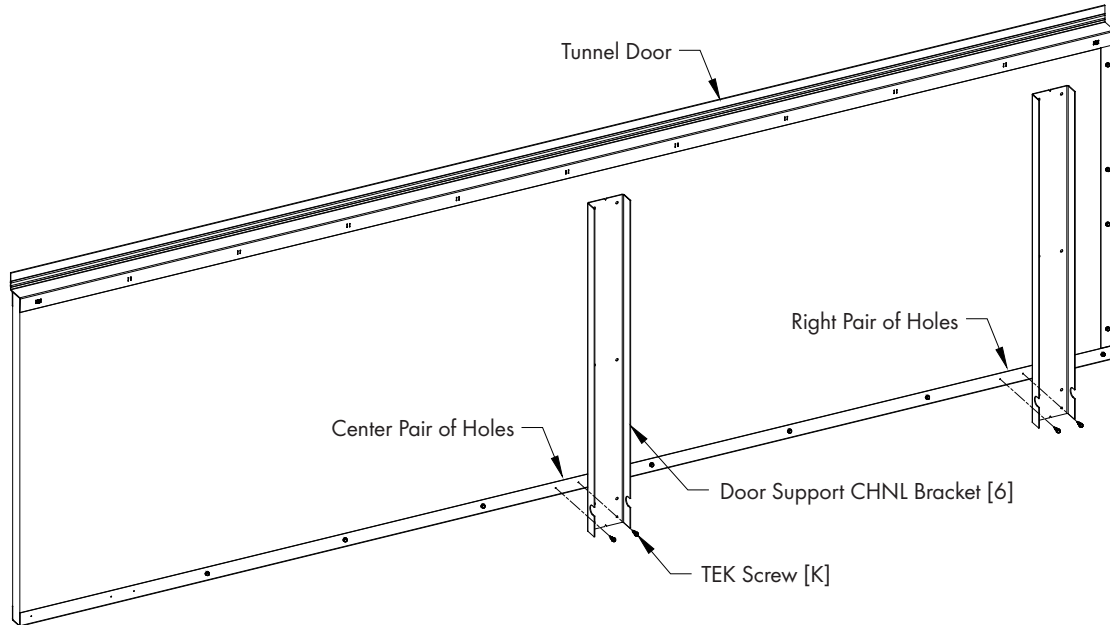

Figure 15
For the Right Door, attach a Door Support CHNL Bracket [6] to the right pair and center pair of holes in the Door Edge Trim using (4) TEK Screws [K] per Bracket. See Figure 15. Make sure the End of the Bracket with the Notches in the flanges is down near the Door Edge Trim.